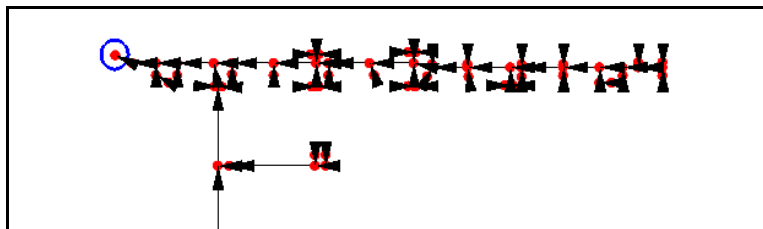

Figure 2 Outfall node location and flow direction arrows
5. Using the  **Select Feature Point/Node** tool, right-click on the outfall node (the top left node in this case, see Figure 2) in the schematic and select **Reorder Streams**.